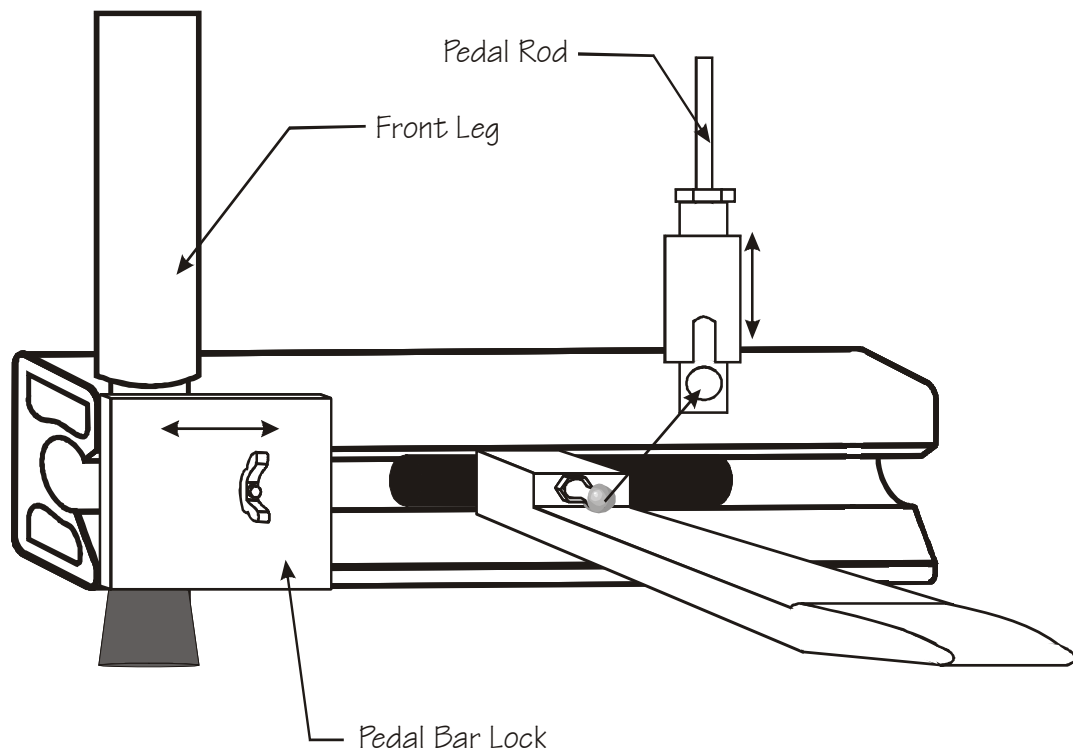
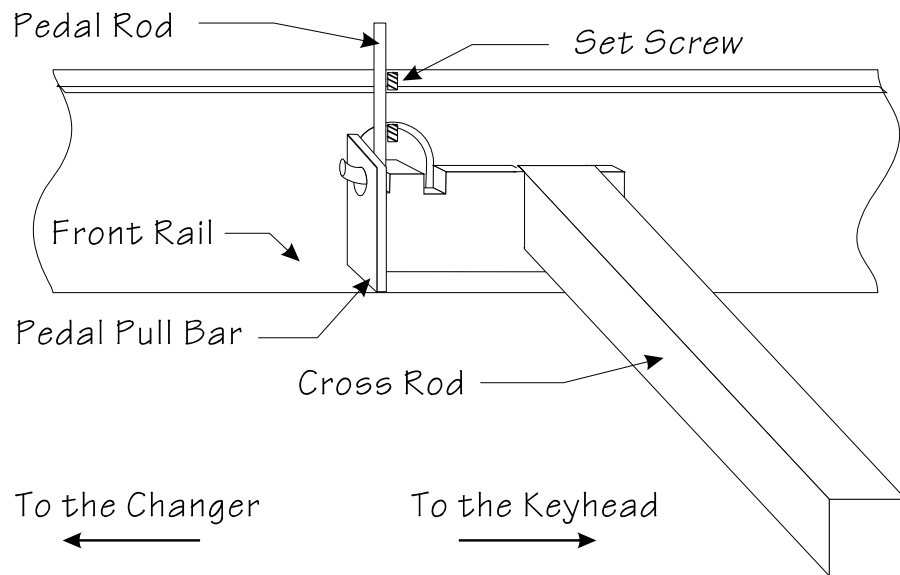

Figure 1
Figure 3
Remove the pouch containing the legs and rods from the pedal bar section of the case and screw the legs snugly into the end-plates. **Please Note:** the FRONT legs are easily distinguished from the back legs as they do not have locking rings and the thread does **not** extend down below the larger part of the leg. Next, remove the pedal bar from its compartment with the pedal surfaces facing down and the pedals extending toward you. While maintaining the pedal bar in this position, place it at the bottom of each of the two (2) front legs by fitting the notched portion of the bar to the thinner portion of each leg. Next, slide the pedal bar locks outward and tighten the wing nuts. (*See Figure 1, Page 2.*)
Now, look at the pedal rods. The number tags on the bottom of the quick-disconnect end indicate which pedal they are adjusted for. Pedal number one (1) is farthest from the changer, or the extreme right. Hook the rod into the pedal rod pull hole (*See Figure 3, Page 5*) so that the hook faces toward the left end (changer) of the guitar. To attach the pedal disconnect to the pedal (*See Figure 1, Page 2*): first: depress the spring-loaded outer shell of the disconnect. Next: slide the pedal ball-joint into the exposed slot *and* release the outer shell. This will lock the ball-joint into place. Repeat this procedure for each of the other rods. Raise the knee levers to their respective vertical positions.
1. **Pedal Height:** The height of the pedals from the floor can be adjusted by loosening the lock nut on the pull rod at the ball-joint connection. Once the lock nut has been loosened, the ball-joint can be screwed in or out as desired. The lock nut should then be re-tightened. (See Figure 1, Page 2.)
2. **Pedal Stop Adjustment:** To get more travel out of a pedal, the pedal stop must be readjusted under the guitar by using a 1/16" Allen Wrench for the pedal stop set screw. Turning the screw clockwise will decrease the travel of the pedal. Turning the screw counterclockwise will increase the pedal travel. (See Figure 3, below.)